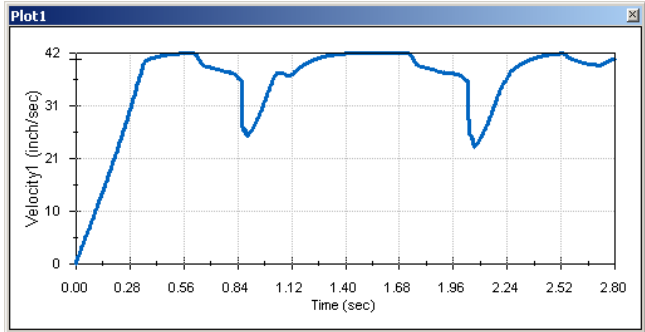

Fig. 31
Step 6. What's the Velocity, Fig. 31?